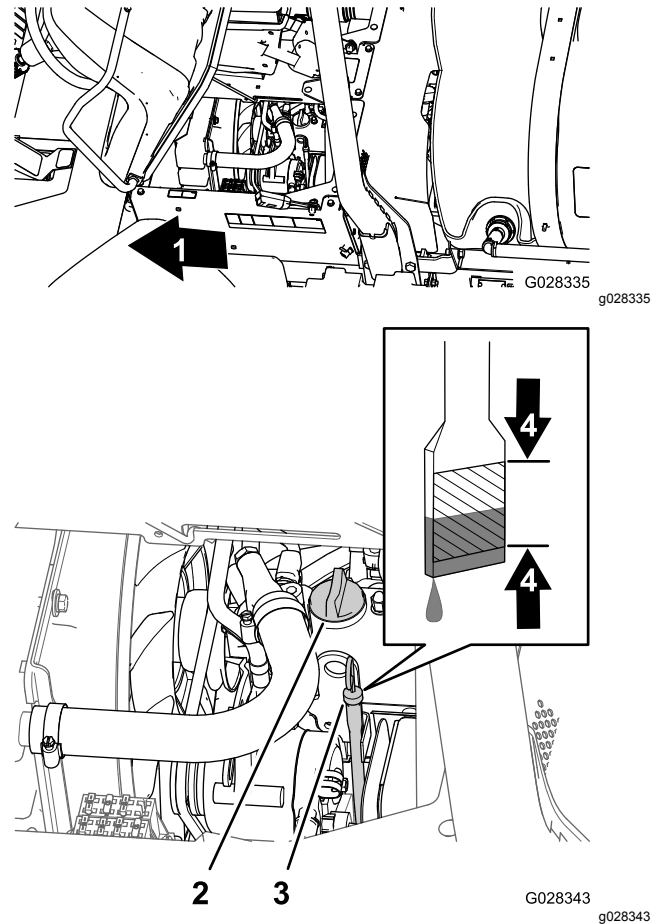

Figure 19
2. Remove the dipstick, located under the passenger seat, and wipe it with a clean rag (Figure 19).
3. If the oil level is low, remove the filler cap from the valve cover (Figure 19) and pour oil into the filler neck until the oil level is up to the Full mark on the dipstick.
4. Install the filler cap (Figure 19).
5. Install the dipstick firmly in place (Figure 19).